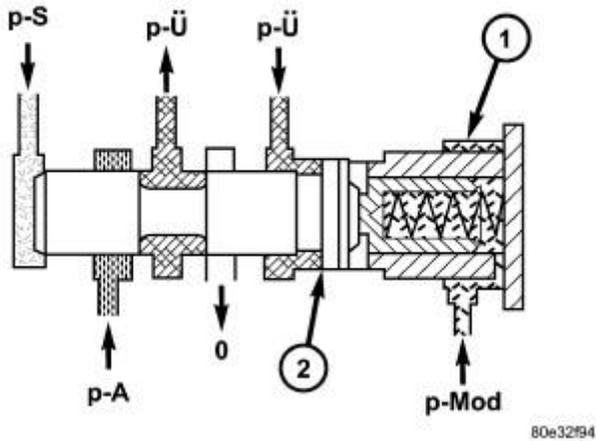

Fig. 222: Cutaway View Of Overlap Regulating Valve
Each shift group is assigned one overlap regulating valve (1). Refer to **Fig. 222**. The 1-2 / 4-5 overlap regulating valve is installed in the shift valve housing; the 2-3 and 3-4 overlap regulating valves are installed in the valve housing. The overlap regulating valve regulates the pressure reduction during a shift phase.